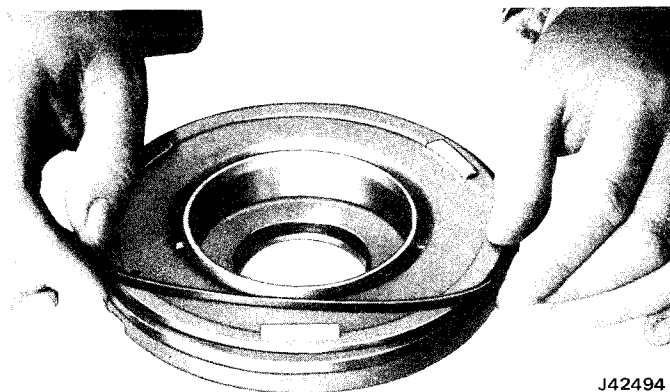

Fig. 2C-76 Forward Clutch Piston Outer Seal Removal
(10) Remove center piston seal from forward clutch housing (fig. 2C-77).